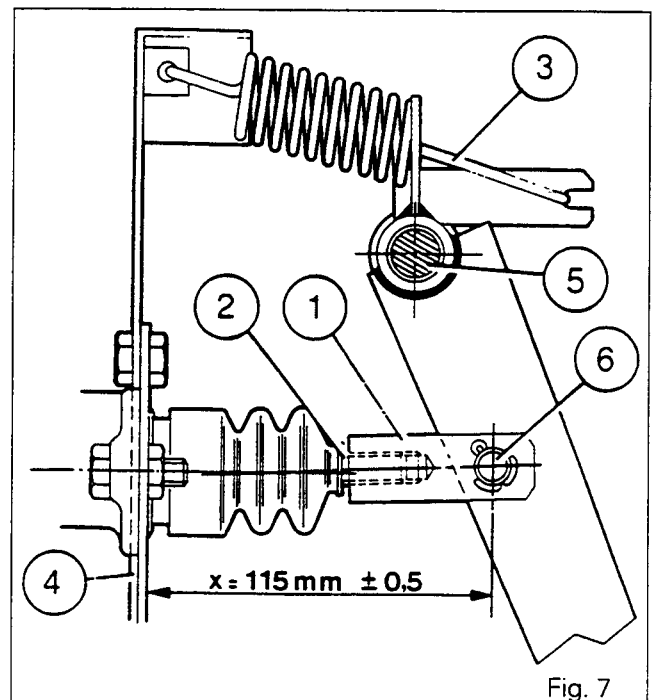

Fig. 7
1. Smear the pins (5) and (6) with molybdenum disulphide (Fig. 7).
2. Smear the clevis (1) with Loctite 542 and screw it on to the rod (2).
3. Fit the return spring (3).
4. Adjust the clevis so as to obtain a distance X of $115 \text{ mm} \pm 0.5$ between the support (4) and the clevis fastening pin.